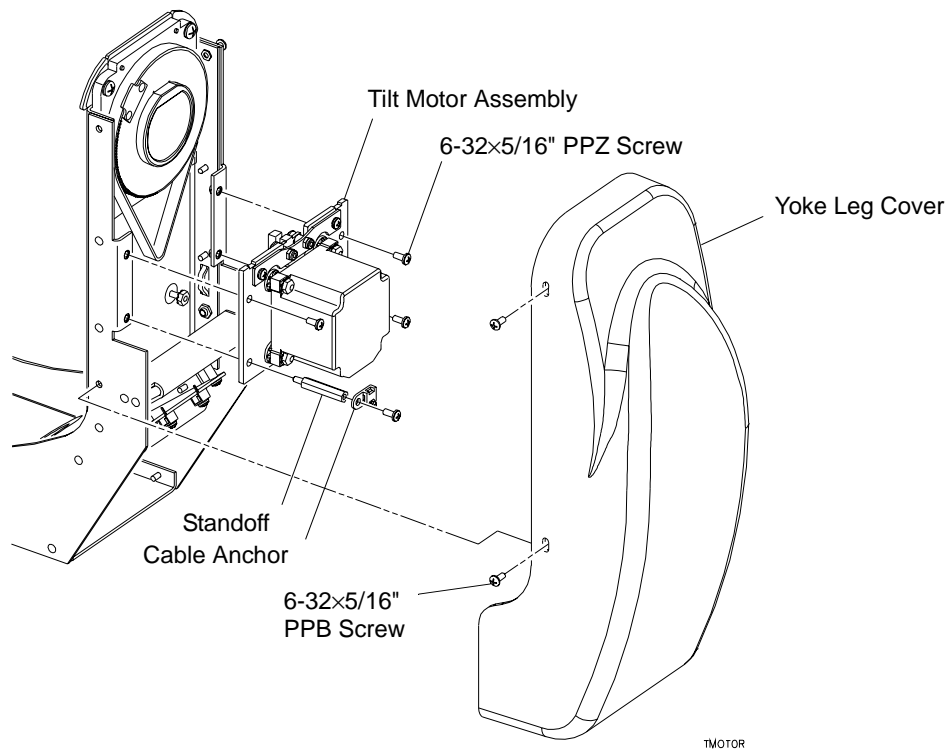

Figure 2-17: Tilt Motor Assembly Replacement
- Step 2. At tilt-side leg, remove yoke leg cover by removing four (two on each side) 6-32×5/16" PPB screws. **Figure 2-17**. To find tilt-side leg, refer to page 8.